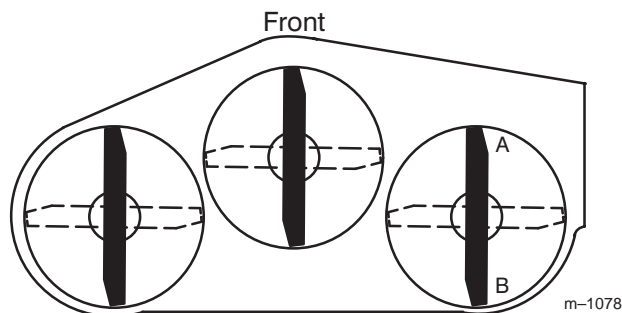
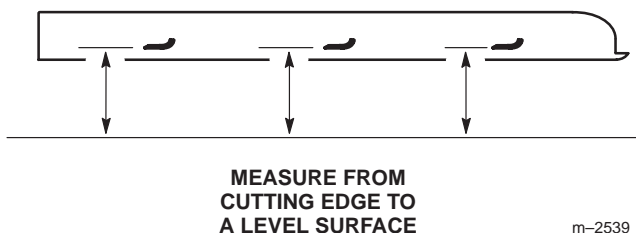

Figure 52
Figure 53
1. Position the **right** blade front to rear (Fig. 52).
2. Measure the right blade at the **A** location (Fig. 52) from a level surface to the cutting edge of the blade tip (Fig. 53).
4. Measure the right blade at the **B** location (Fig. 52) from a level surface to the cutting edge of the blade tip (Fig. 53).
6. The mower blade should be **1/4 to 3/8 inch (6 to 10 mm) lower at position A than at position B** (Fig. 52). If it is not correct, go to the following steps.